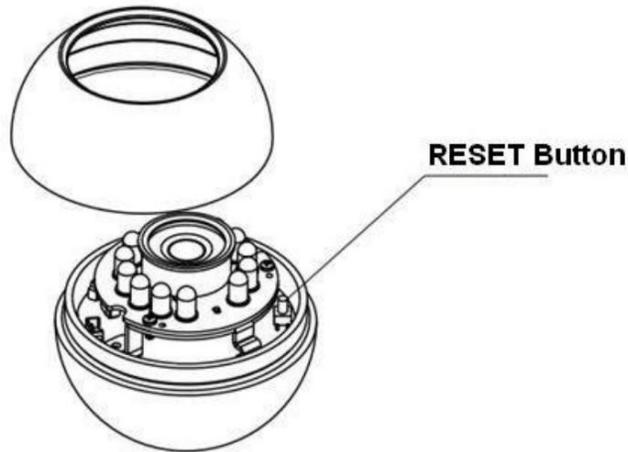

Figure 3-5
Step 3 Slightly press the RESET button for 15-30 seconds to complete the factory reset. The camera will reboot. See Figure 3-5.